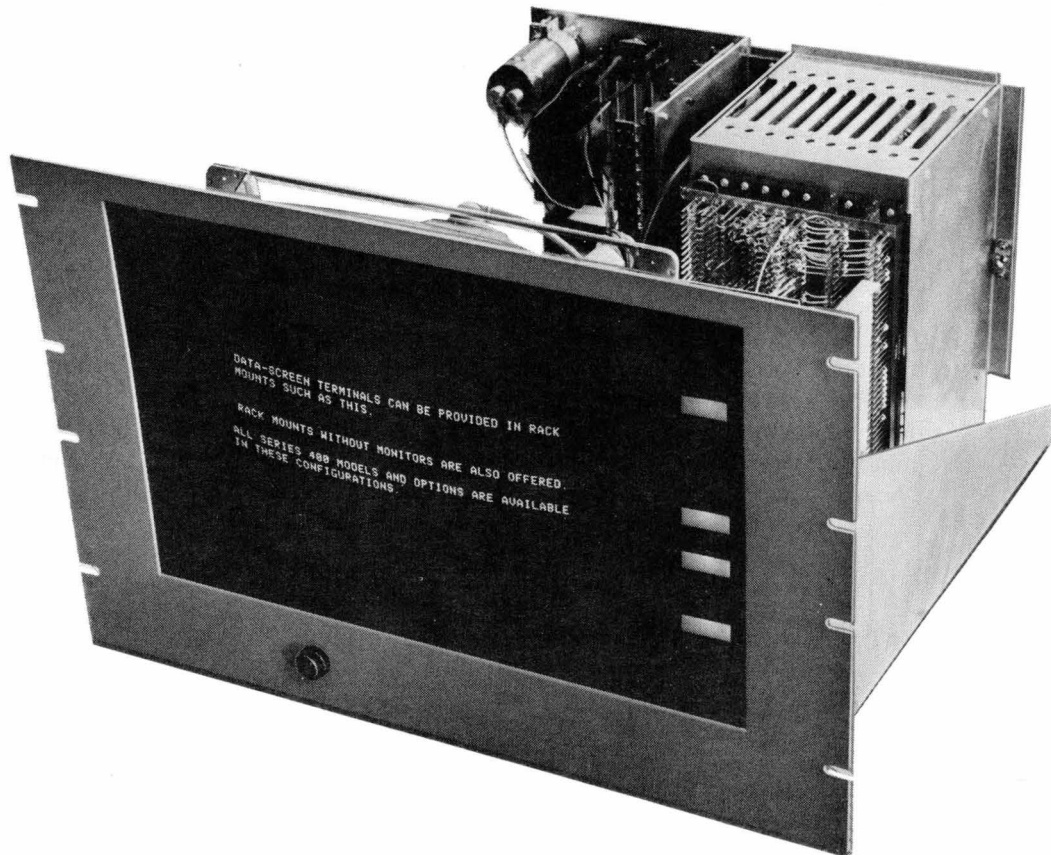

FIGURE 3. RACK MOUNT MODEL WITH MONITOR
- c. Rack mount (for standard 19-inch rack) with 12 1/4" high front panel. Consists of TV monitor, logic and power supplies. See Figures 3 and 43.